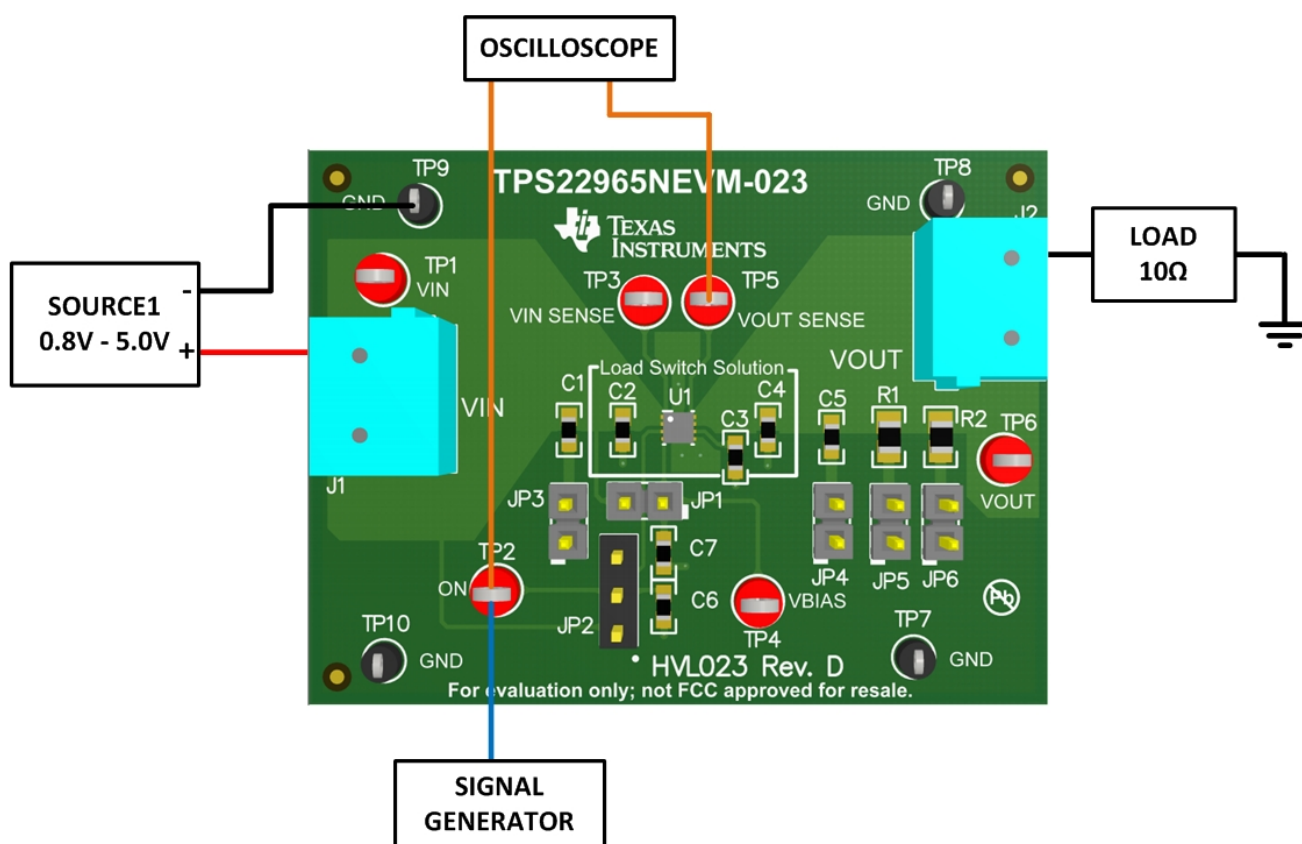

Figure 4. TPS22965NEVM Recommended AC Parameter Test Setup
3. Set up the EVM as shown in Figure 4.